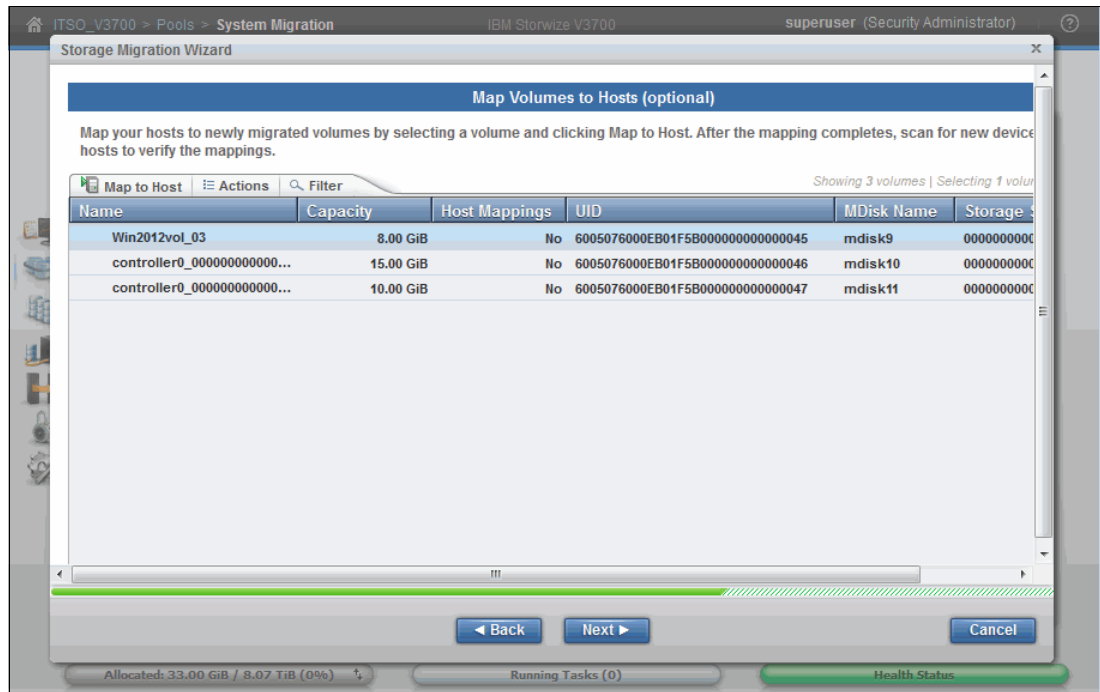

Figure 6-53 Renamed volume
5. Click **Close** to return to the Map Volumes pane as shown in Figure 6-53.